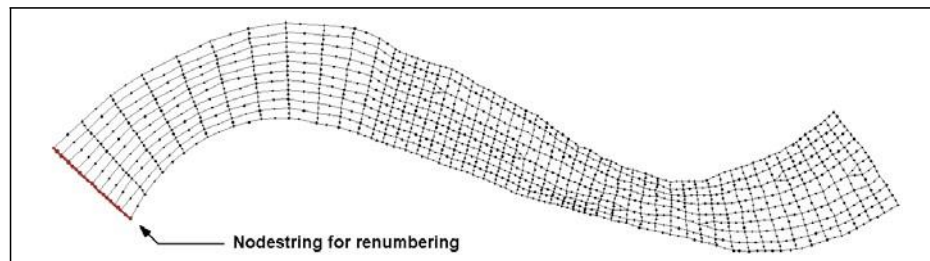

Figure 12 The position of the nodestring for renumbering.
2. Create a nodestring across the left section, as shown in Figure 12.